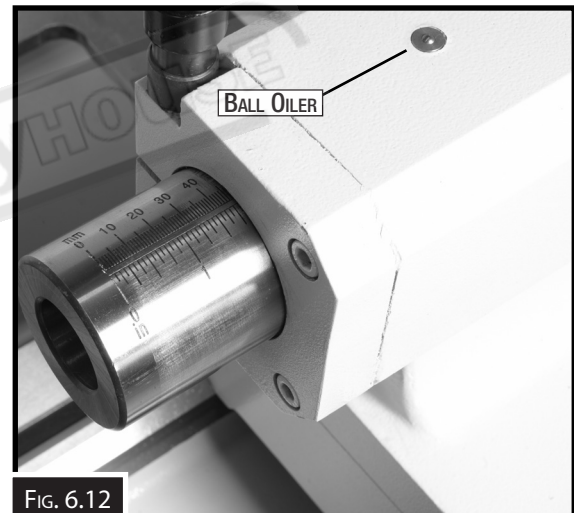

FIG. 6.12
- ☐ Tailstock ball oilers (Fig. 6.12)